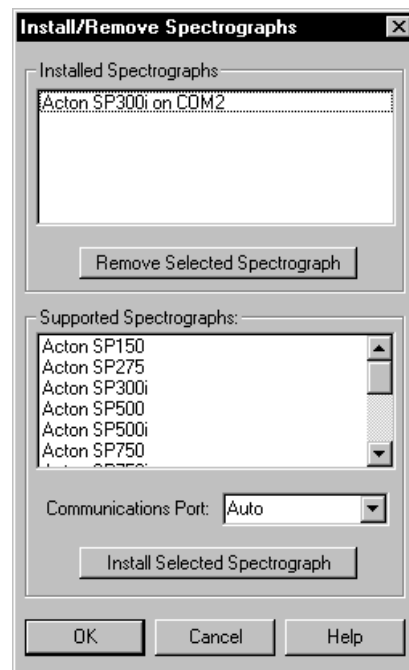

Figure 23. Install/Remove Spectrographs
6. Click on **Install/ Remove Spectrograph**. This will open the Install/Remove Spectrographs dialog box (Figure 23). The lower window lists the supported Spectrographs. The upper window lists those installed. To install a spectrograph, select it from the list in the lower window, select the Communications Port (Auto, COM1-COM8, or DEMO) and click on **Install Selected Spectrograph**. The installed spectrograph will then appear in the upper window. In the case of the example shown in Figure 23, the selected spectrograph is an Acton SP300i.